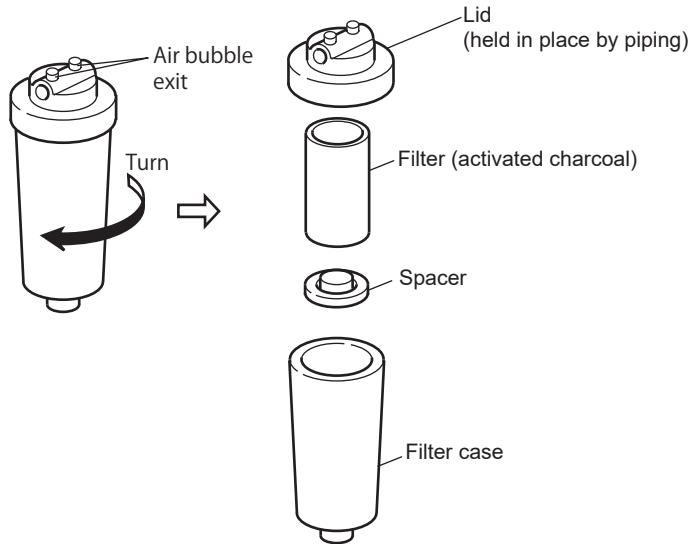

Figure 8.14 Replacing Activated Charcoal Filter
- (1) Remove the filter case by turning it in the direction shown in Figure 8.14.
- (2) Clean the inside of the filter case with a brush.
- (3) Replace the activated charcoal filter with a new one.
- (4) Assemble in the reverse procedure.
- (5) Turn on SV6 and let zero water flow for 30 minutes or more. At this time, make sure that there is no water leakage.
- (6) Confirm that the indicated value is near zero.